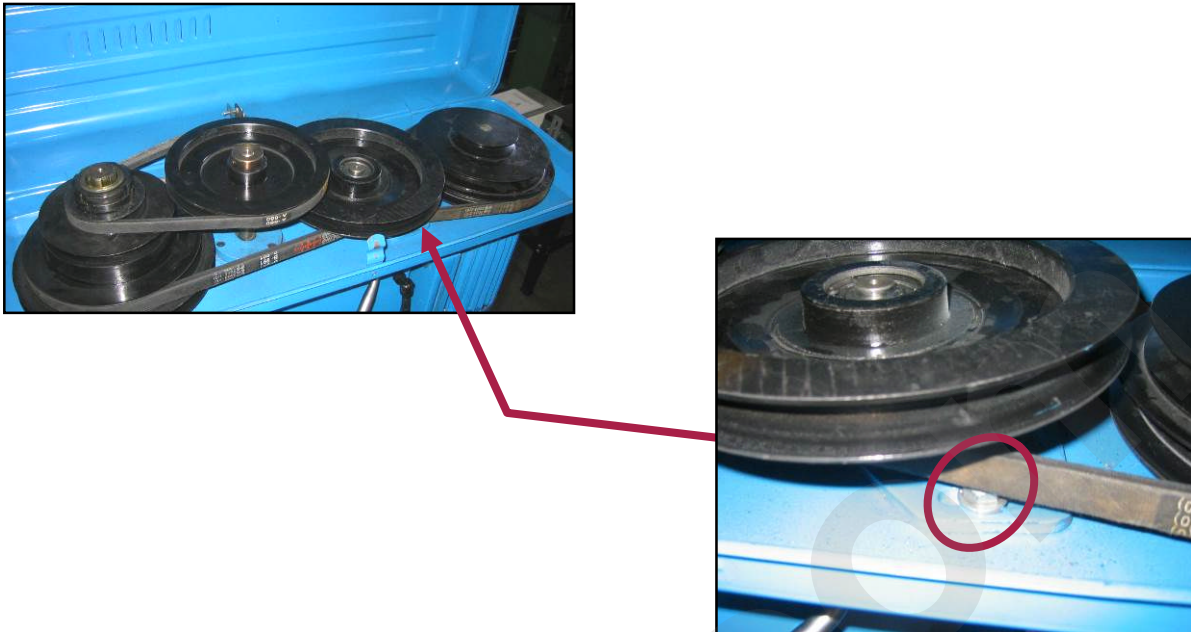

Figure 12 - Close-up of the bolts (1).
5. Unscrew the bolts (1) which lock the central pulley, by using a wrench for hexagonal nuts (figure 12).